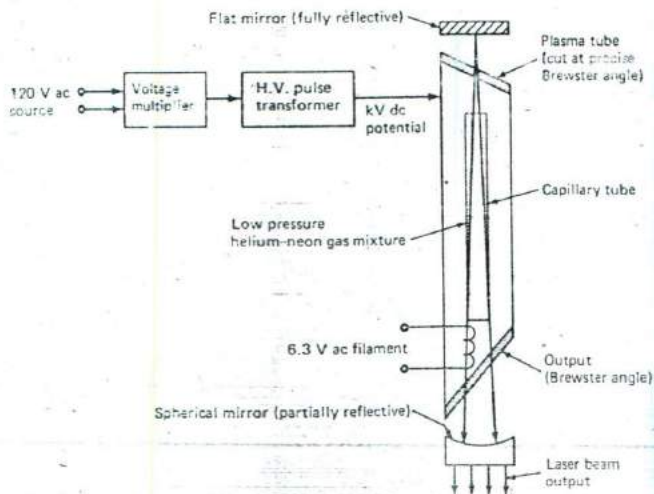

Fig. 14-84 Gas laser: excitation by electric discharge.
Gas lasers function quite differently from pulsed solid-state lasers. Gas lasers are not powerful. They operate mostly in the continuous-wave (CW) mode. Their steady beams will not burn holes or vaporize steel as the pulsed (crystal and semiconductor) laser can (this effect will be discussed shortly). There are many reasons for using gas. The volume of the material can be large, in contrast to those of crystals and semiconductors. Heat can be removed readily by transporting the heated gas out of the region and replacing it with cooler gas. A mixture of two gases is required for laser action. Atoms of the second gas are raised to higher levels with external excitation. For example, a laser might use 10 parts helium and 1 part neon. The mixture is pumped with radio frequency energy. A more modern approach is to use a high-voltage discharge from a voltage multiplier circuit, while a filament heats the gas as shown in Fig. 14-84. A further refinement of the electronics has eliminated the need for a filament to start the ionization of the gases. The circuit uses a voltage quadrupler to produce a starting boost of 7.5 kV to ionize the gas in the tube.